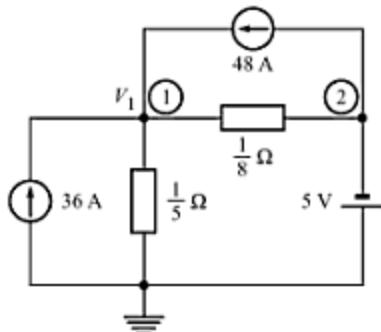

Fig. A-101
- A-65.** Determine the node voltages  $V_1$  and  $V_2$  in the circuit of Fig. A-101.